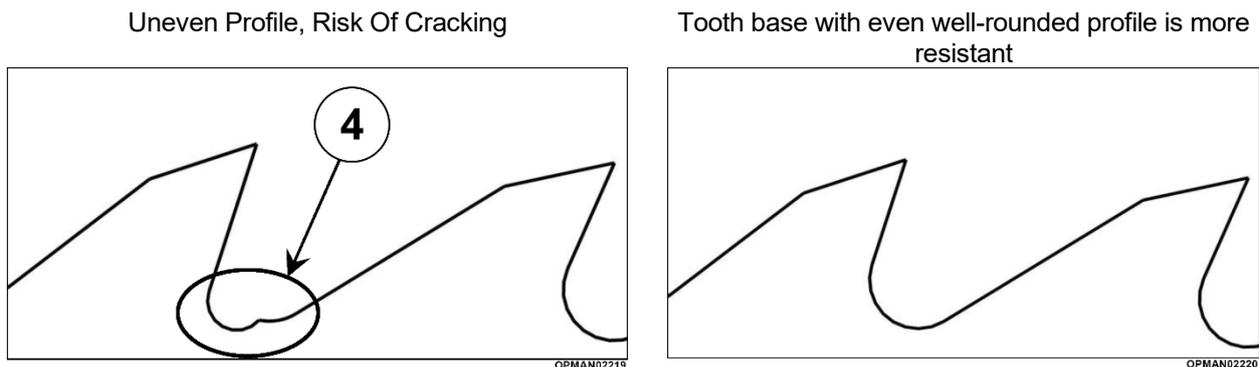

Figure 27
Sharpening should not create any break in profile, hollowing, dents, or facets which weaken the saw blade's strength, and thus increase the risk of incipient cracks; see Figure 27 (4). Special attention thus needs to be paid to the tooth's smooth, rounded bottom, and its regularity. Grinding should be carried out using an appropriate grinding wheel in several runs to avoid burning the steel.